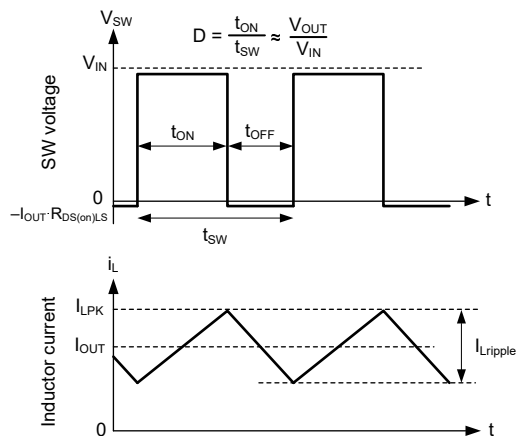

图 8-20. SW Voltage and Inductor Current Waveforms in Continuous Conduction Mode (CCM)
The following operating description of the converter refers to the Functional Block Diagram and to the waveforms in Figure 8-20. In CCM, the converter supplies a regulated output voltage by turning on the internal high-side (HS) and low-side (LS) NMOS switches with varying duty cycle (D). During the HS switch on time, the SW voltage, V_{SW} , swings up to approximately V_{IN} , and the inductor current, i_L , increases with a linear slope. The HS switch is turned off by the control logic. During the HS switch off time, t_{OFF} , the LS switch is turned on. Inductor current discharges through the LS switch, which forces V_{SW} to swing below ground by the voltage drop across the LS switch. The control loop adjusts the duty cycle to maintain a constant output voltage. D is defined by the on time of the HS switch over the switching period: